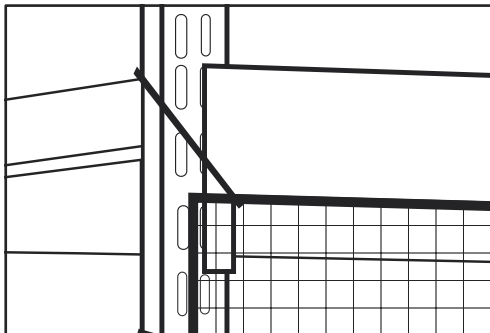

Figure 2
2. Secure the corner of the pallet rack netting with a cable tie. (See Figure 2)